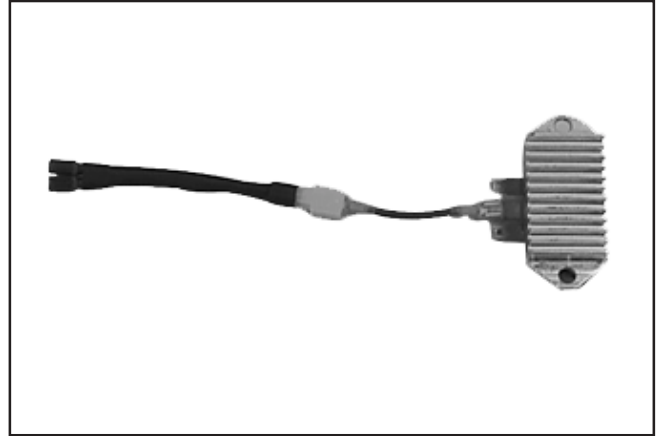

Figure 8-28.
1. Connect the single lead adapter in between the B+ (center) terminal of the rectifier-regulator being tested and the squared single end of the tandem adapter lead. See Figure 8-28.